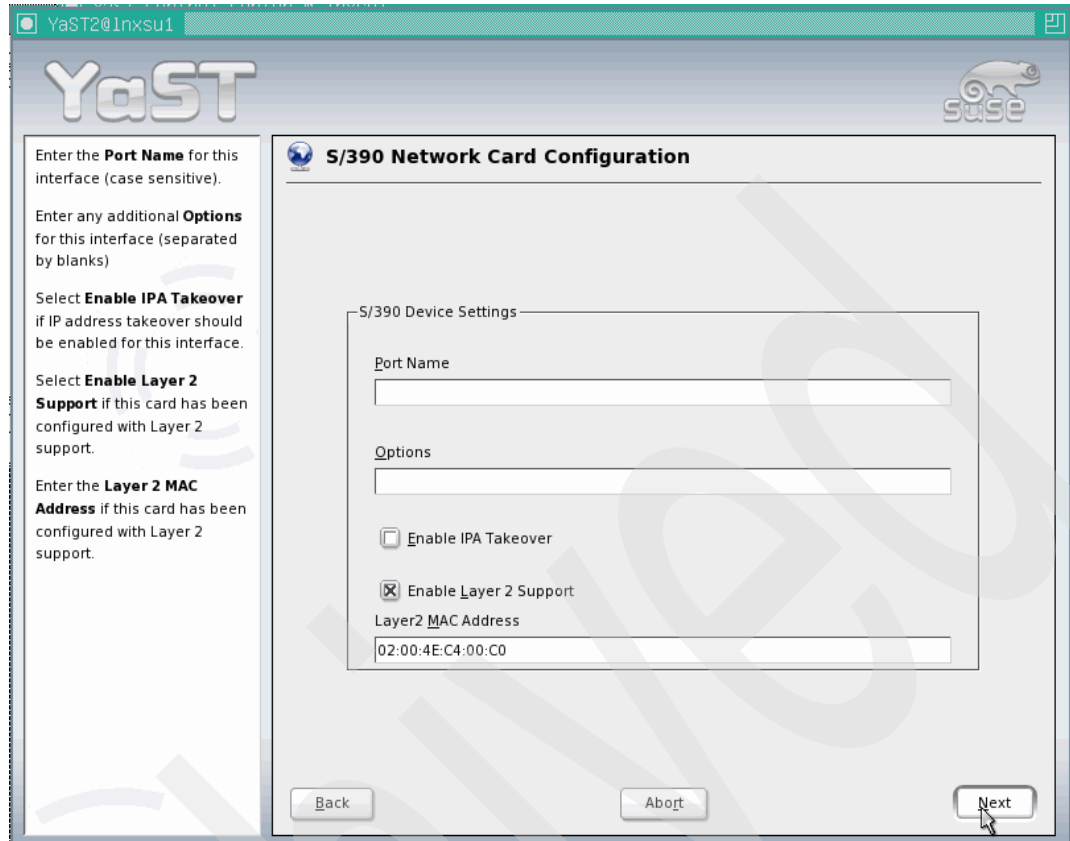

Figure 6-6 Enabling Layer 2 support for QDIO device configuration panel
2. We selected the first device address to be used for our QDIO Layer 2 network interface and clicked **Configure**. We enabled the Layer 2 support on the resulting panel, also specifying the virtual MAC address that we need for this network interface, as shown in Figure 6-6 on page 131.